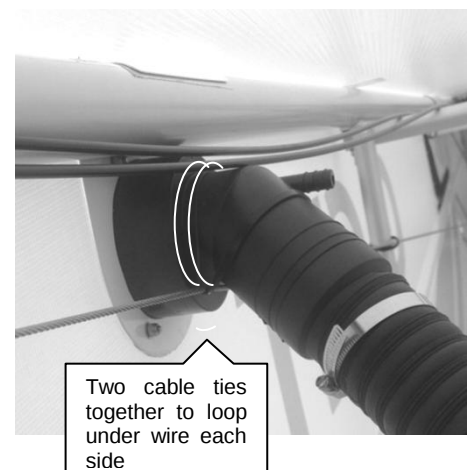
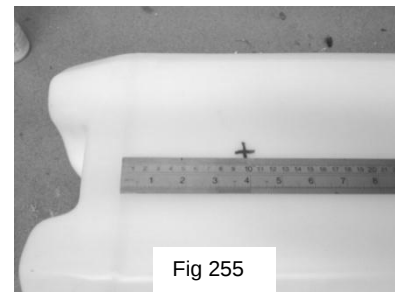

Figure 253
Fig 255
- a) Mark the tanks for making the holes for the tank fittings. Make sure you mark the tanks on the correct faces – the inner ones as shown in fig 253. Mark up 100mm from the lower ridge in the side of the tank and central laterally as shown in fig 255.